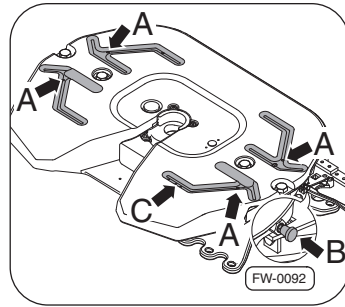

Fig. 20 · Lubricating point connections of fifth wheel SK-S 36.20
- Four lubrication point connections Fig. 20, –pos. A– plate M8x1